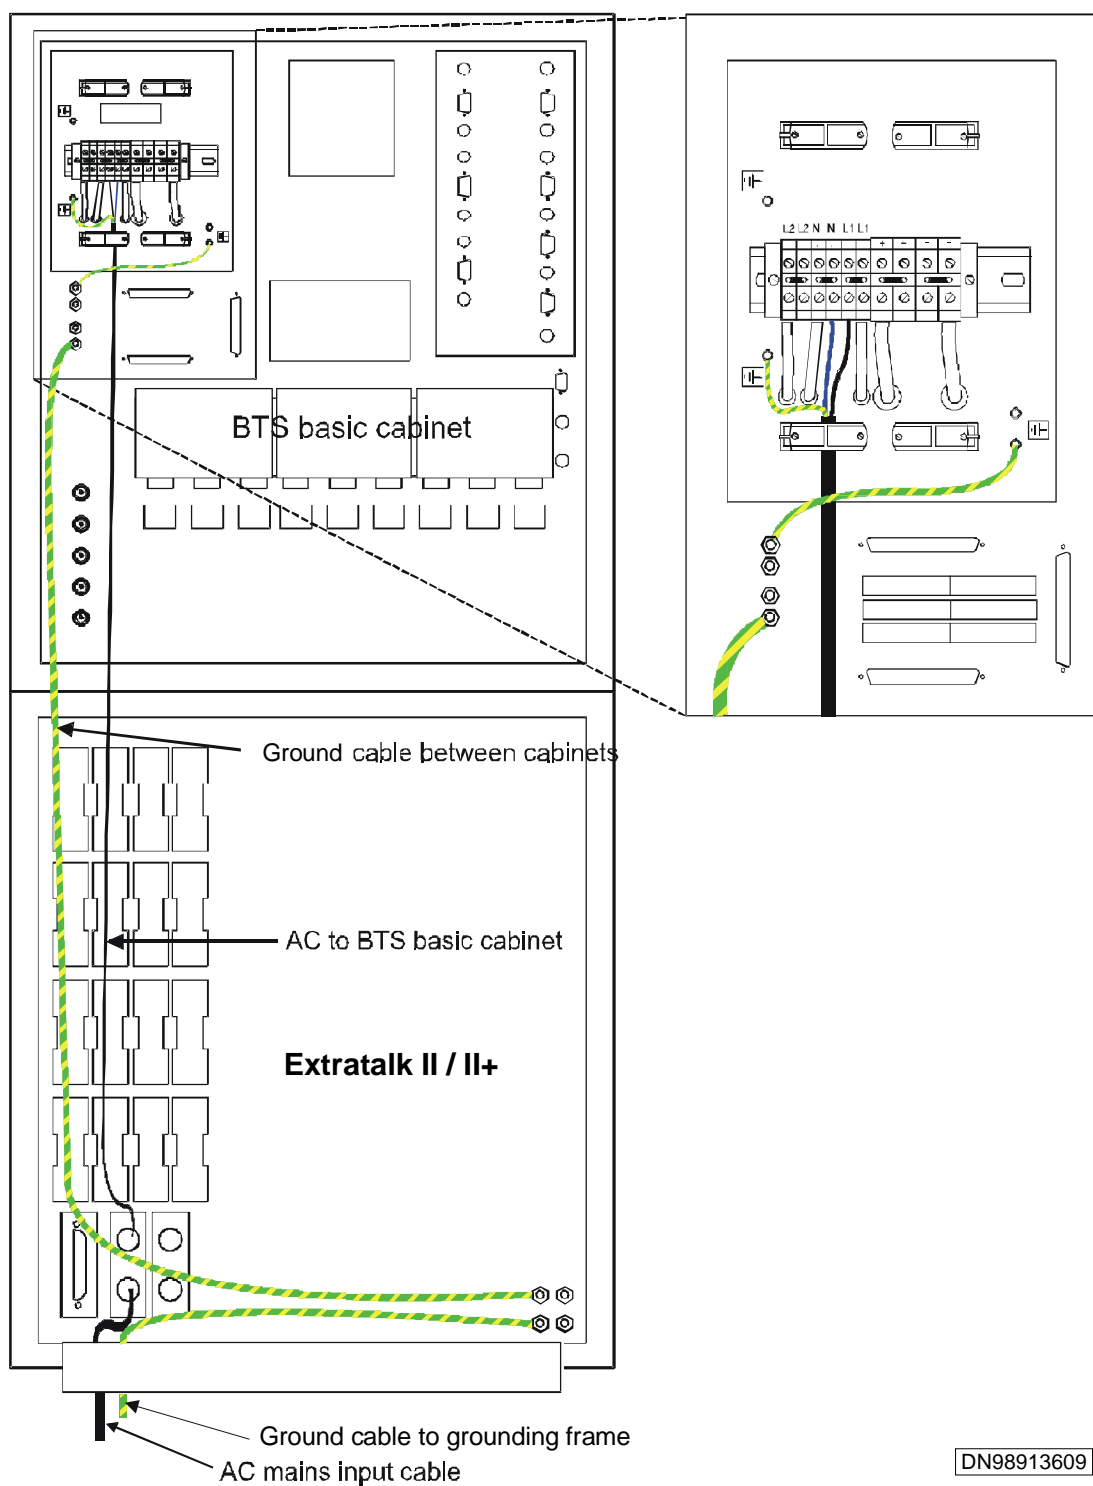
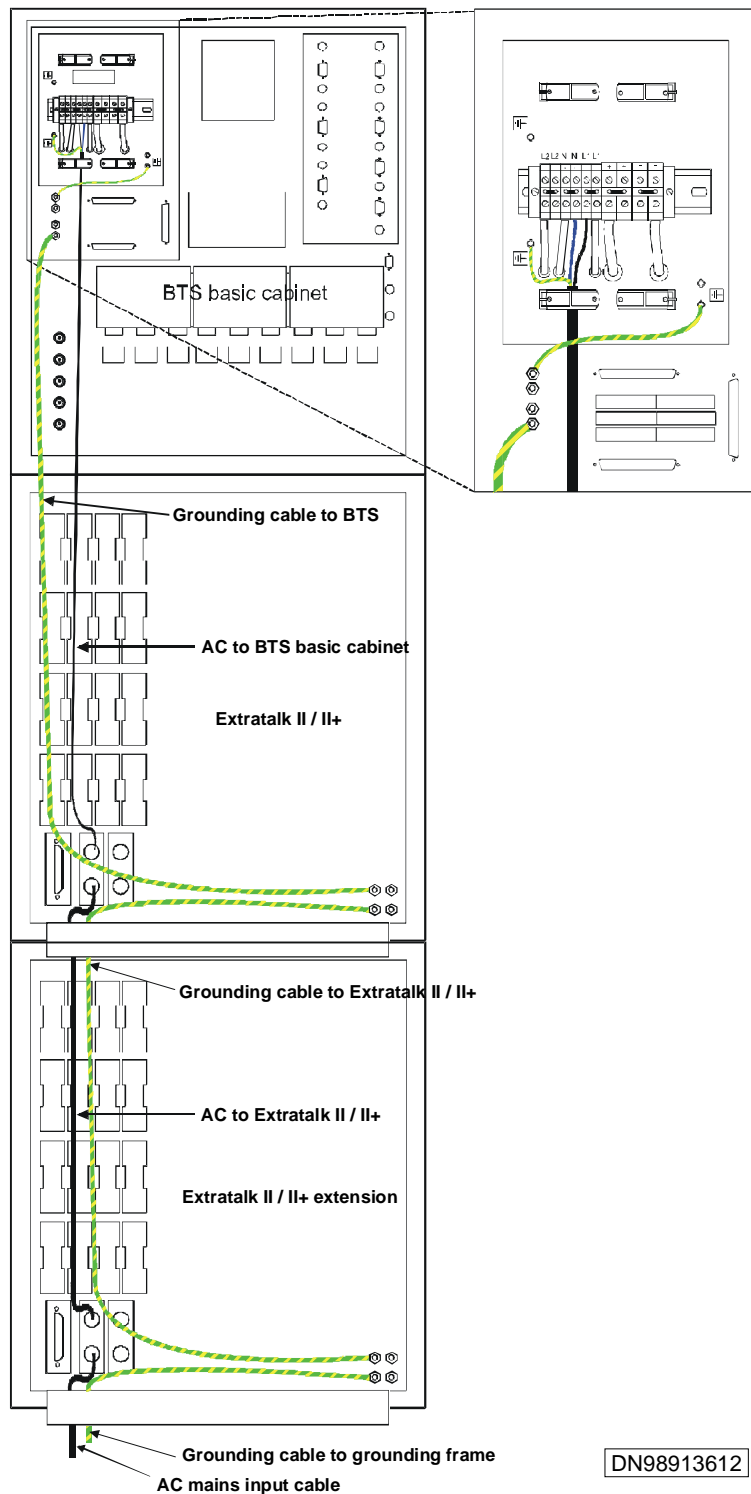

Figure 44 Extratalk II / II+ AC voltage and grounding cables
Figure 45 Extratalk II / II+ and extension AC voltage and grounding cables
Cut off the required lengths of cable and fit the ends with 6mm ring cable tags for the cabinet connection bolts. The connection points on the Extratalk II / II+ top plate are shown in Figure 44. The connection points on the Extratalk II / II+ extension top plate are shown in Figure 45. For the connection point on the BTS top plate connector and for connection of BTS extensions refer to the BTS user manual.
- Cut off the required length of the cable and route one end through the corresponding cable entry into the required cabinet. See section 6.1.2, Figure 44 and Figure 45.
The AC output cable to the BTS has to be connected to the BTS (heater) connector of the Extratalk II / II+ PDU, and the connectors on the top plate connector of the BTS, using the principle shown in Figure 44.
The AC output cable to BTS 2 has to be connected to the BTS extension (heater) connector of the Extratalk II / II+ PDU extension, and the connectors on the top plate connector of BTS 2, using the principle shown in Figure 44.
The AC output cable to BTS 2 extension has to be connected to the BTS extension 2 (heater) connector of the Extratalk II / II+ PDU extension, and the connectors on the top plate connector of BTS 2 extension, using the principle shown in Figure 44.